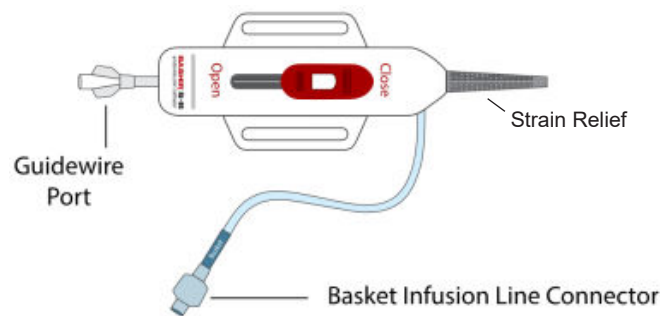

Figure 5. Basket infusion line connector and guidewire port.
8. Attach one 3-way stopcock to the basket infusion line connector (Figure 5, Page 5).
18. Remove the 0.018" guidewire. Attach a second three-way stopcock to the guidewire port and flush the guidewire lumen with heparinized saline (Figure 5).